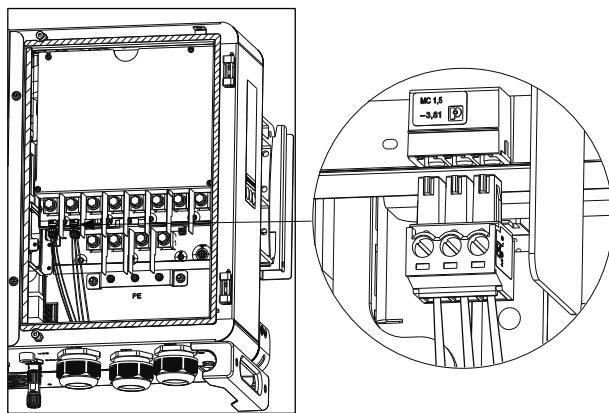

Fig 6.16 BMS-AC terminal
1. Open the right cover plate of the inverter, the position of which is shown in Fig 6.16;